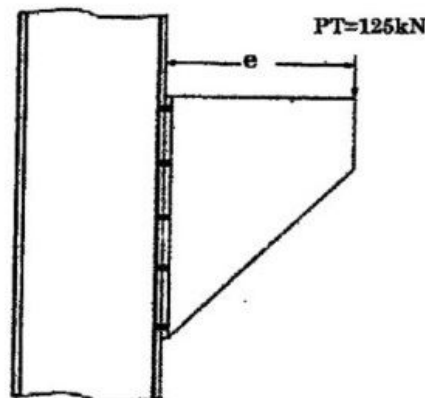

Figure. 2
- (b) Design a bolted bracket connection to transfer a service end reaction of 90 kN at an eccentricity of 125 mm from the face of the column flange. Use 16 mm diameter bolts of grade 4.6. Steel is of grade Fe 410. (Figure. 2)